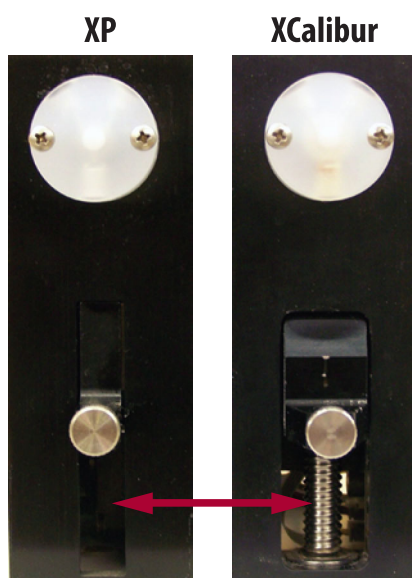

Figure 1. Valve type dependent on presence of lead screw. The XP Pump does not have a lead screw. The XCalibur Pump has a lead screw.
- The valve type depends on the version of syringe pump. Identify the pump by evaluating whether the pump has a lead screw or not (**Figure 1**).